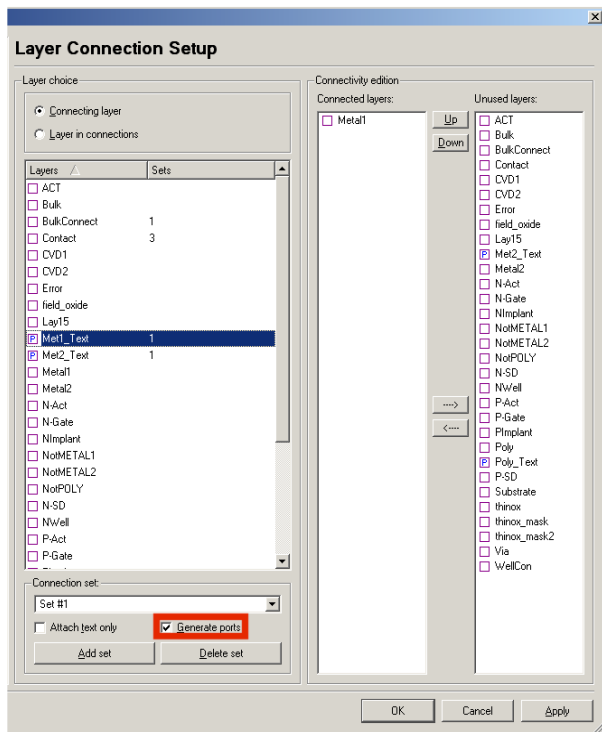

Figure 2. Configuration of the ports generation.
- These labels must be designed using layers which are configured to automatically generate some ports. To do this, select “Setup >> Technology >> Layer Connection Setup” from the Guardian LPE “Layer Connection setup” panel. The highlighted option in Figure 2. (see below) has to be activated. With this setup all labels created with layer “Met1_Text” will generate a port